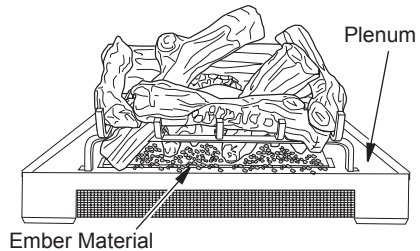

Figure 38 - Placing Ember Material on Burner
1. Pull ember material apart into pieces no larger than a dime. Place these pieces loosely and sparingly directly onto exposed front section of burner (see Figure 38). This will create the glowing ember appearance as flame touches ember material. Do not block air slots by using too much ember material in one area. Do not block pilot ports with embers. It is not necessary to use all of the ember material provided.